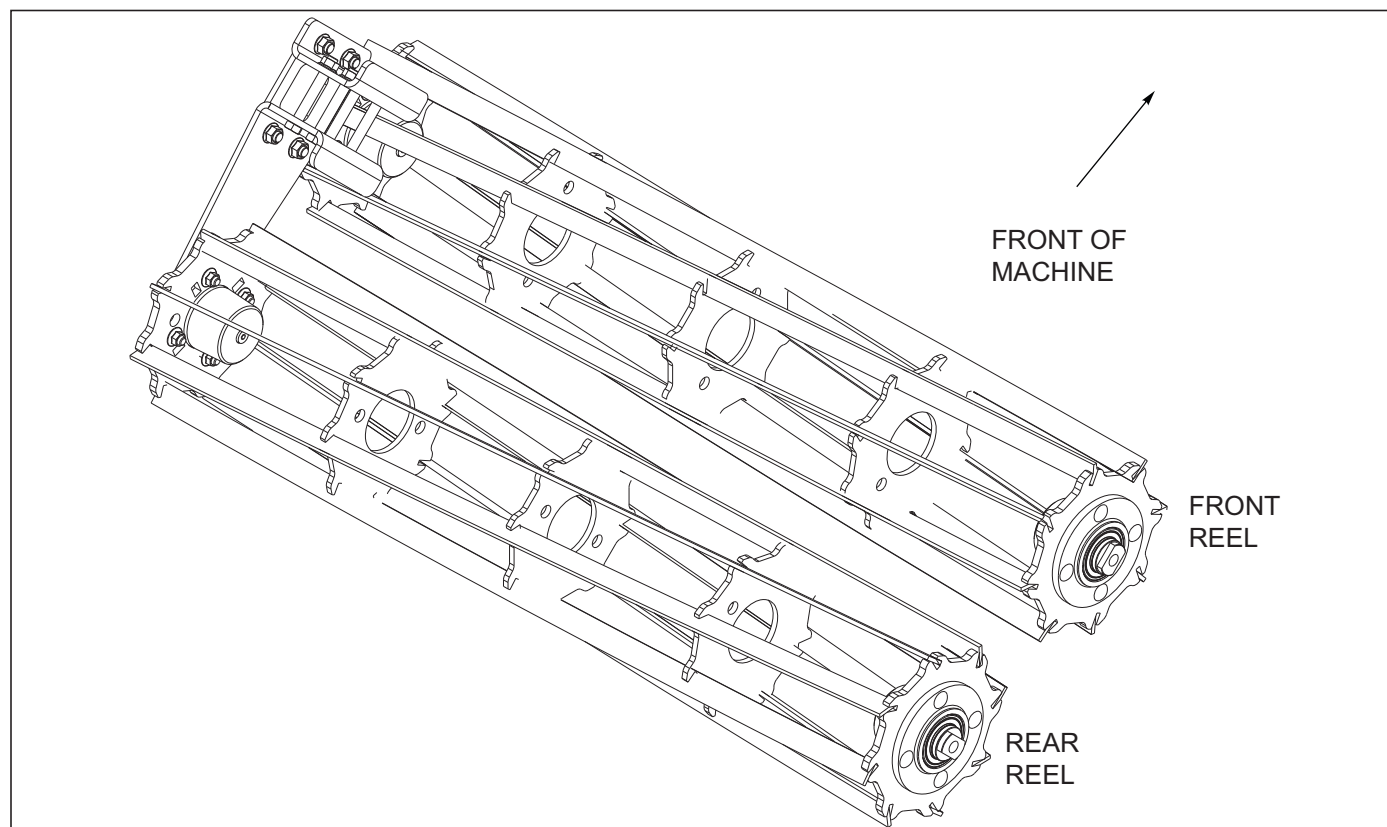

Figure 3-33: 2RS DBL Flat Reel Installation
6. Attach flat bar reels with front and rear reel angled blades as shown *See Figure 3-33*.